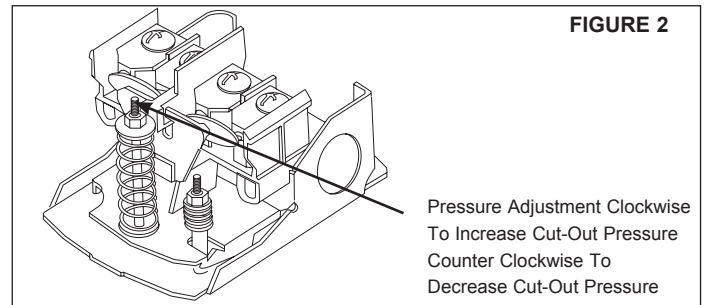

FIGURE 2
3. If there is a momentary pause in the water flow from the time the well tank is emptied and the pump starts, adjust pump cut-in setting clockwise slightly (see figure 2).